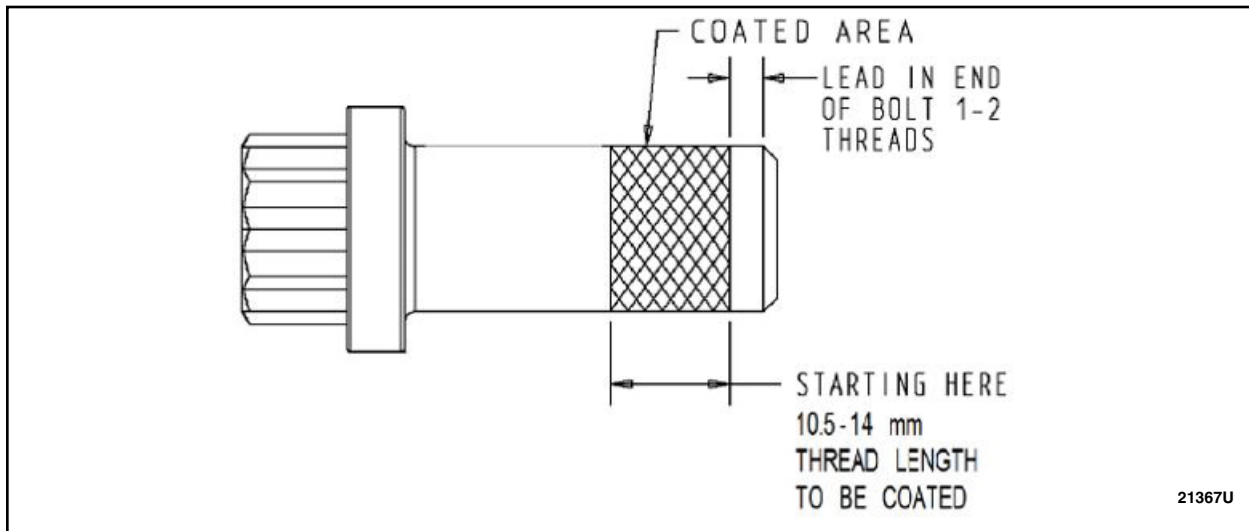

FIGURE 11
15. Inspect the original driveshaft flange to pinion flange bolts for rust in the threads and replace if rusted or damaged. Clean threads of the original driveshaft flange to pinion flange bolts with a wire brush and coat the threads with LOCTITE 243 Blue Medium Strength Threadlocker or equivalent. See Figure 11.